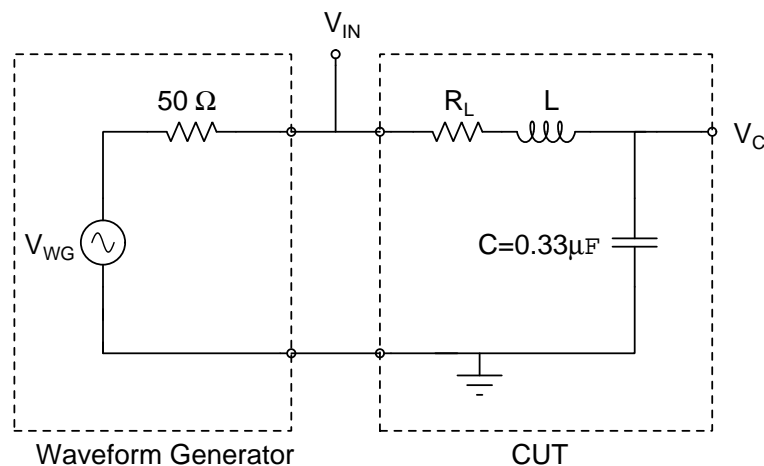

Figure 1: RLC circuit analyzed and measured in Lab #6.
3. Consider the circuit in **Figure 1** with $R_L = 0\ \Omega$ and $L = 1\ \text{mH}$.
1. Build the RLC circuit shown in **Figure 1**.